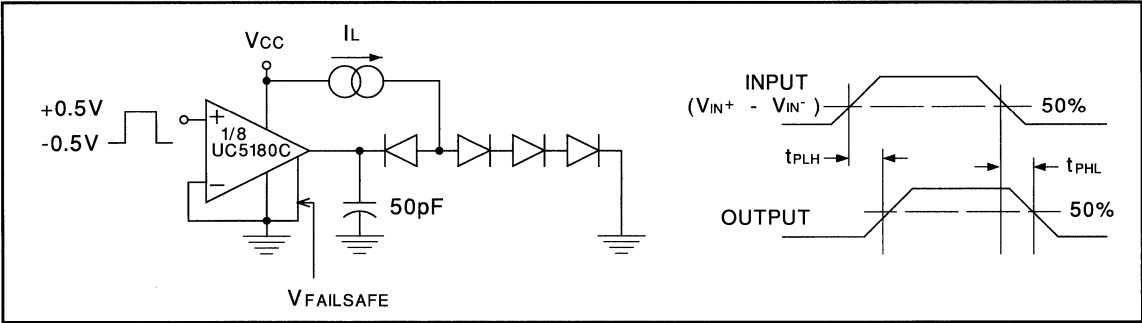

Figure 2. AC Test Circuit
**AC ELECTRICAL CHARACTERISTICS:**  $V_{CC} = 5\text{V} \pm 5\%$ ,  $T_A = 0^\circ\text{C}$  to  $+70^\circ\text{C}$ , Figure 2,  $T_A = T_J$ .